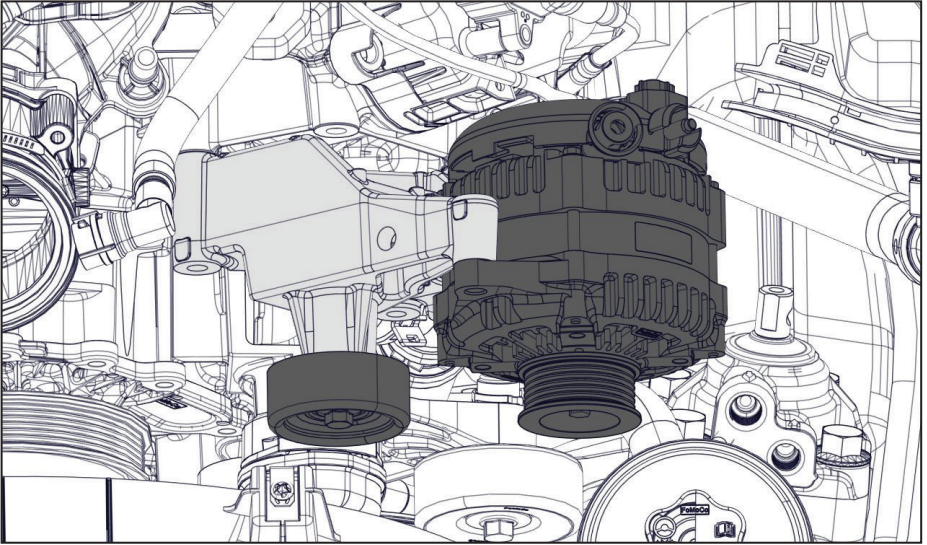

Figure 4 — Remove alternator, idler, and bracket
- Remove the Primary alternator and fasteners (Figure 4).
- Remove the idler from the alternator bracket (Figure 4).
- Remove the alternator bracket (Figure 4).